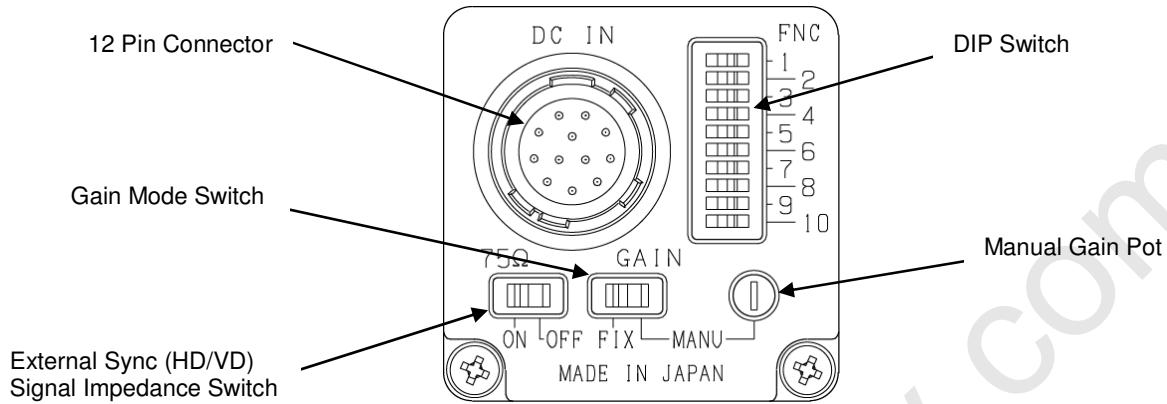

Figure 1
2. DIP Switch Settings (Refer to **Dip Switch** in **Figure 1**)
3. External Sync. (HD/VD) signal impedance setting (See **External Sync** in **Figure 1**)
4. Gain Mode Setting (See **Gain Mode Switch** in **Fig. 1**)
The gain can be adjustable by the manual gain pot (See **Manual Gain Pot** in **Fig. 1**).